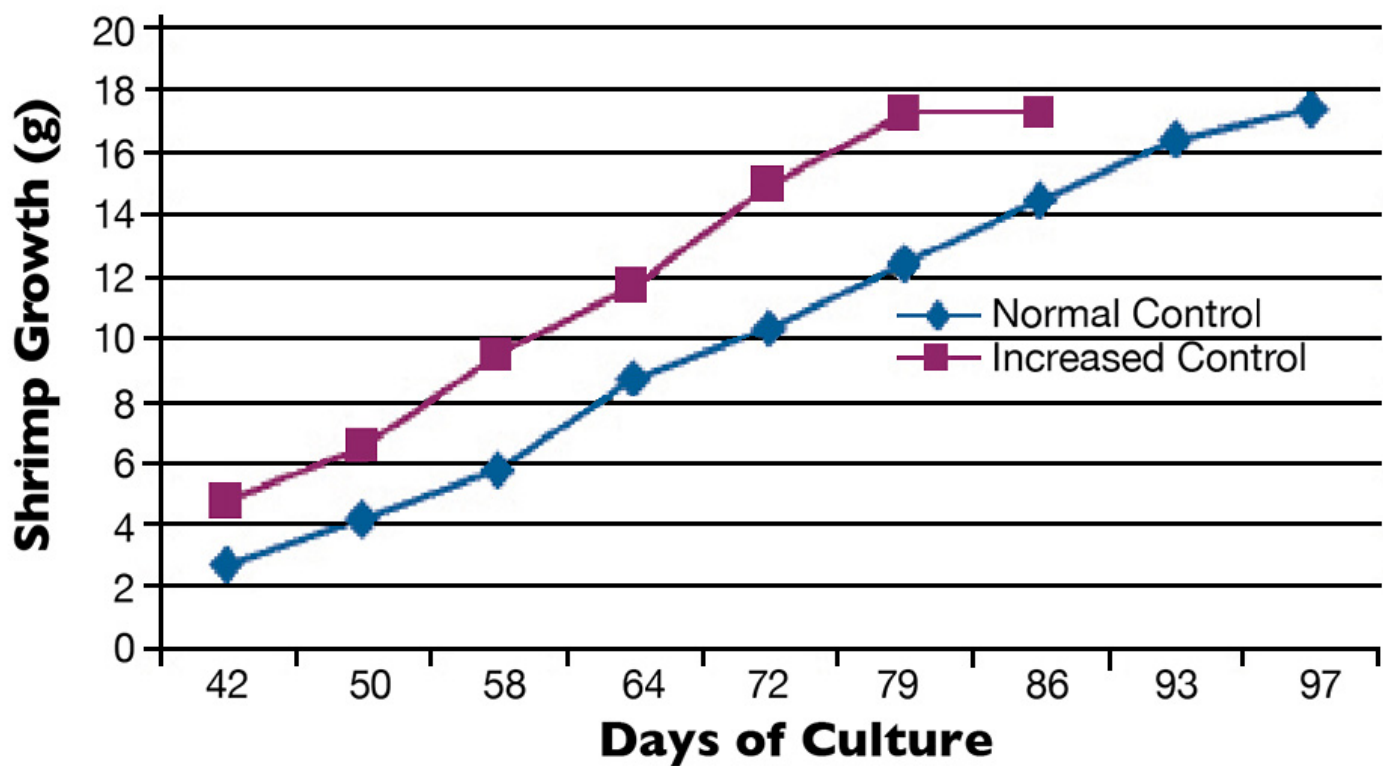

Fig. 1: Shrimp growth.
Recent farm production from 2 hectares of pond area for one cycle has been 45 to 55 metric tons (MT) or 90 to 110 MT in one year. In the present cycle, added efforts were applied to reduce culture days with intensive feed and controlled biofloc development. This paid off, as shrimp grew faster and the days of culture were reduced to just over 80, compared with the more typical 100 days of culture at the farm (Fig. 1).